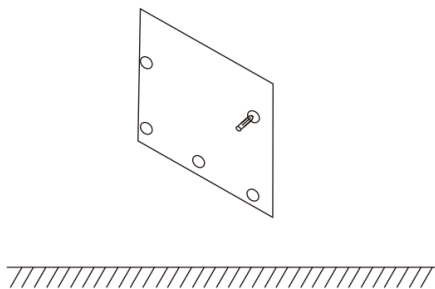

FIG. 2
2. Take out the fittings,install the expansion pipe into the holes.(fig2)